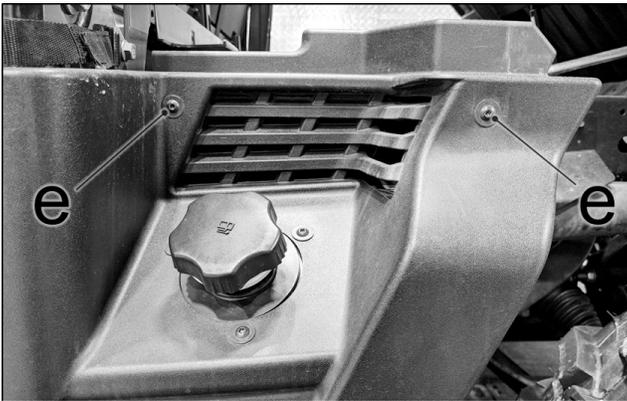

Figure 6
- 3.1 Remove temporarily the 2 side panel mounting bolts (e) located above fuel cap. See Figure 6.